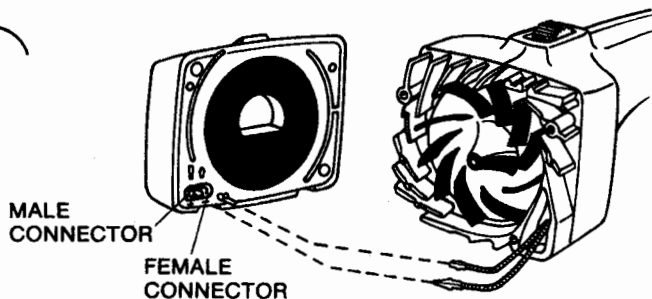

Fig. 13
4. Attach the two wires to the battery pack as shown on the pack itself and in figure 13.